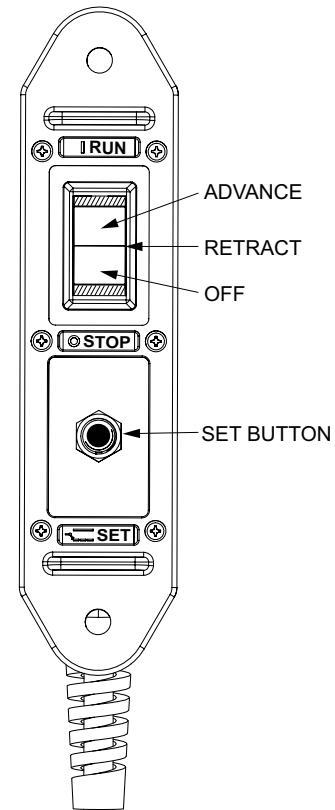

Fig. 4. Hand Pendant Controller
- C. Refer to figure 4. Press rocker switch so it is in the OFF position.